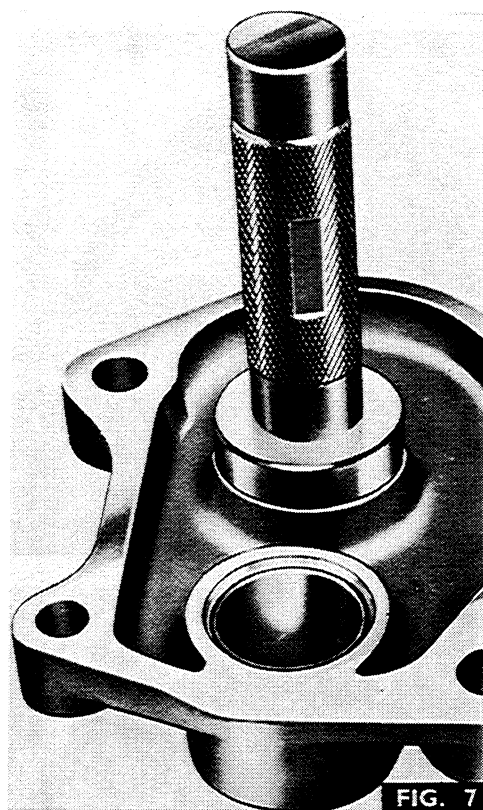

FIG. 7
1. Fig. 7. Position a bush (18) squarely over its hole and drive in the bush using the adapter MF 263-1 and the 550 handle, as shown.
3. Secure the cover plate (31) to the steering box and ream through each pair of bushes using the reamer MF 19A.
4. Remove the cover plate and thoroughly clean out all the swarf from the steering box (20).